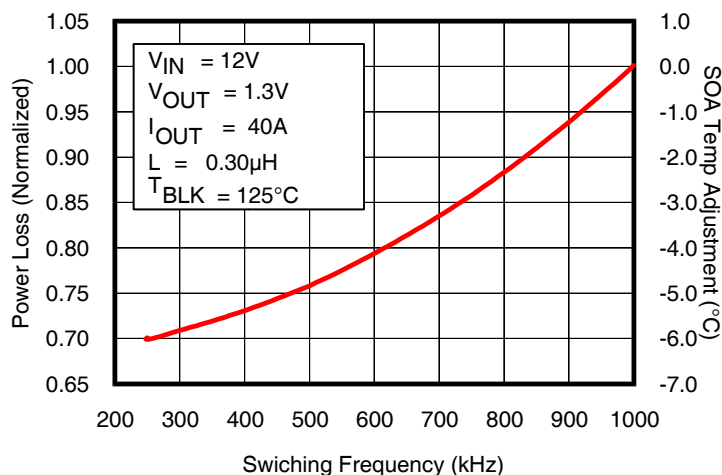

Fig. 5: Normalized Power Loss vs. Frequency
- (Fig. 5) Normalized power loss for frequency ≈ 0.94
- (Fig. 5) SOA Temperature Adjustment for frequency $\approx -1.2^{\circ}\text{C}$